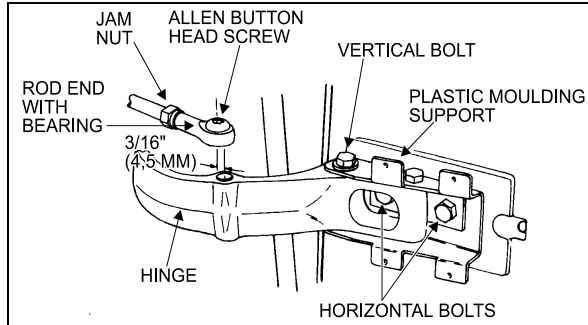

FIGURE 18: UPPER DOOR HINGE (COACH) 18058
2. Fully close the damper while turning the dust cap or piston rod slowly CCW until it is felt that the cams of the adjusting nut engage in the recesses of the foot valve assembly (Fig. 18).
In figure 18, if there is an indentation (B) in the dust cap (C) and the cover shows two holes (A), the damper is fitted with a bump rubber (D). If so, fully extend the damper and insert a round bar or screwdriver through the holes. Push the bump rubber down and remove. Remove the split plastic collar (E) (if fitted) from the piston rod.
Where a bump rubber was installed, refit same inside the dust cap and by fully closing the damper, the rubber will seat again at top of the dust cap. Refit the split plastic collar E (Fig. 18)